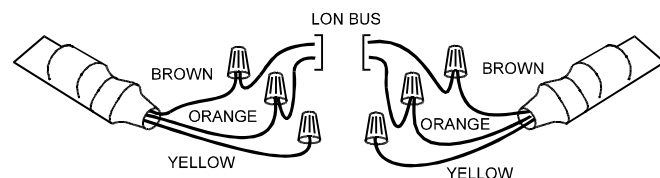
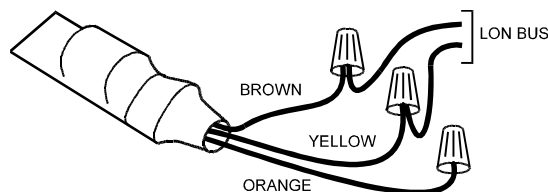

Fig. 34. Termination Module 209541B connections for doubly-terminated FTT network
Fig. 35. Termination Module 209541B connections for a singly-terminated FTT network
- 209541B LONWORKS Bus Termination Module (see Fig. 34 and Fig. 35) and